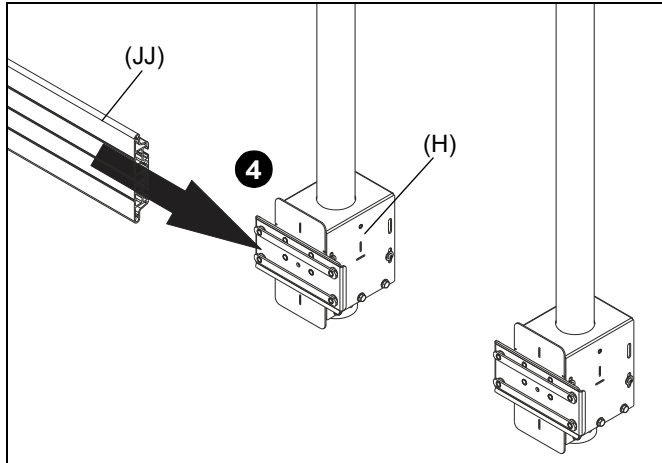

Figure 4
4. Slide X-large rail (JJ) onto one of two assemblies (H) attached to column. (See Figure 4)